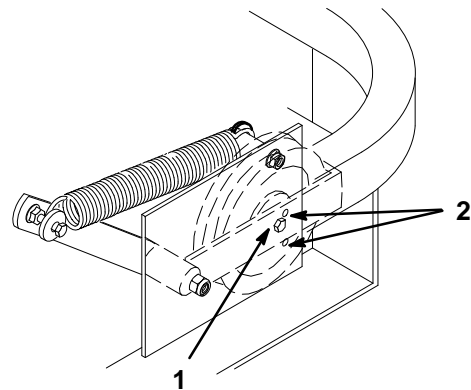

Figure 10
3. Check belt tension. The center bolt of spring loaded idler must be between the two alignment holes in left support plate (Fig 10).
Note: Check position of center bolt in Low Height of Cut. The center bolt must be at or below the top alignment hole. Check position of center bolt in a High Height of Cut. The center bolt must be at or above the lower adjustment hole (Fig 10).
5. Check belt tension again. The center bolt of spring loaded idler must be between the two alignment holes in left support plate (Fig 10). Adjust, if necessary, and tighten all hardware securely.